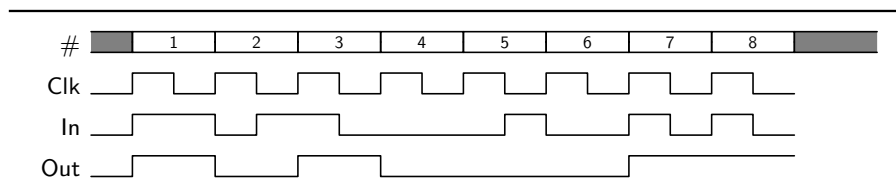

Figure 10.1: Example Timing Diagram
Unlike combinational logic circuits, timing is essential in sequential circuits. Normally, a device will include a *clock IC* that generates a square wave that is used to control the sequencing of various activities throughout the device. In order to design and troubleshoot these types of circuits, a timing diagram is developed that shows the relationship between the various input, intermediate, and output signals. Figure 10.1 is an example timing diagram.
Figure 10.1 is a timing diagram for a device that has three signals, a clock, an Input, and an Output.
- CLK: A clock signal regularly varies between Low and High in a predictable pattern, normally such that the amount of Low time is the same as the High time. In a circuit, a clock pulse is frequently generated by applying voltage to a crystal since the oscillation cycle of a crystal is well known and extremely stable. In Figure 10.1 the clock cycle is said have a 50% duty cycle, that is, half-low and half-high. The exact length of a single cycle would be measured in micro- or nano-seconds but for the purposes of this book all that matters is the relationship between the various signals, not the specific length of a clock cycle.
Given the timing diagram in Figure 10.1 it would be relatively easy to build a circuit to match the timing requirements. It would have a single input and output port and the output would match the input on the positive edge of a clock cycle.